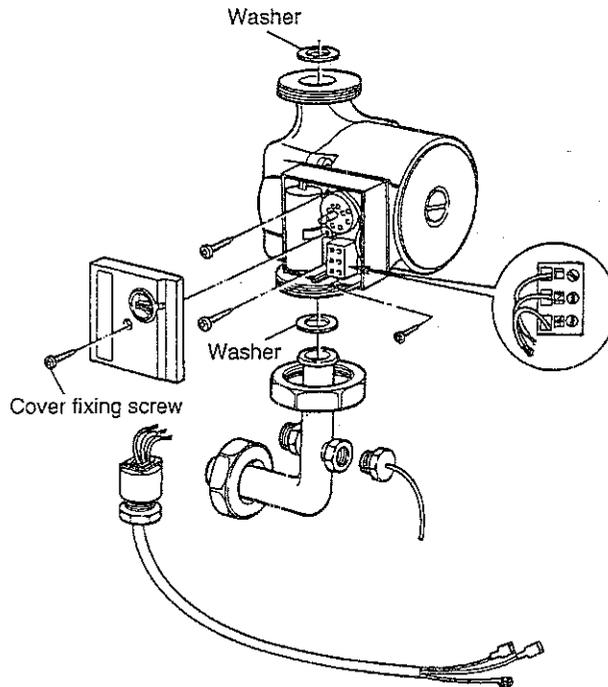

Fig. 40
- c) Remove electrical cover on pump, one screw (fig 40) (Rotate pump to remove cover)
- g) Re-assemble in reverse order (fig. 40).